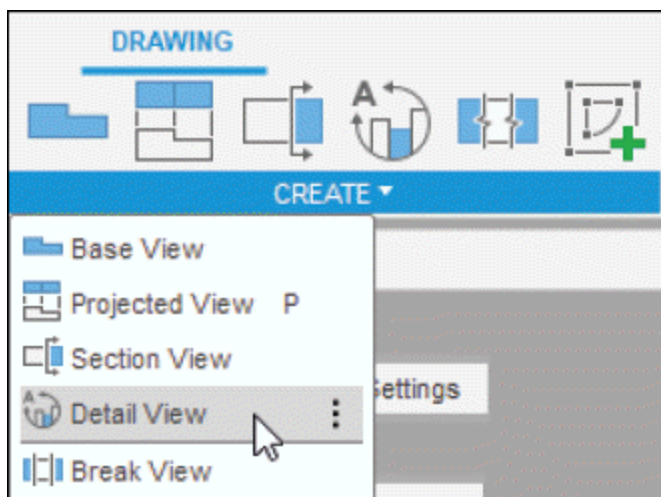

Figure-18. Detail View tool
- Click on the **Detail View** tool of **CREATE** panel; refer to Figure-18. The tool will be activated and you will be asked to select a view whose selected section is to be included in detail view.